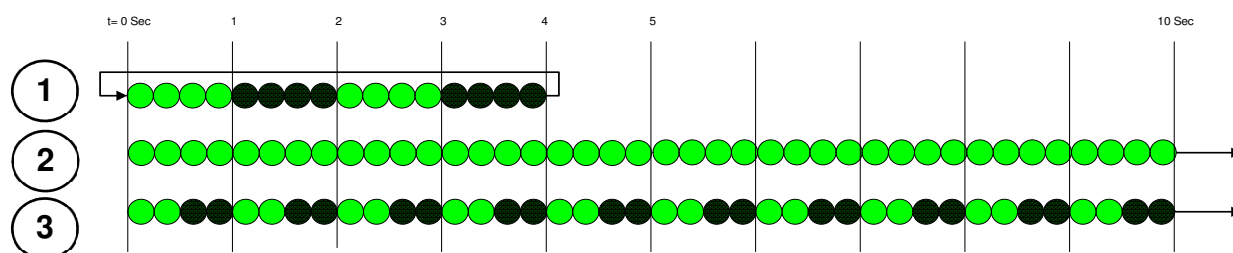

Figure 8. System-status led (DIAG) during manual encoder initialization by means of SW2 and SW1.
- Next: the system-status LED (DIAG) will indicate the status of the encode initialization (figure 8).